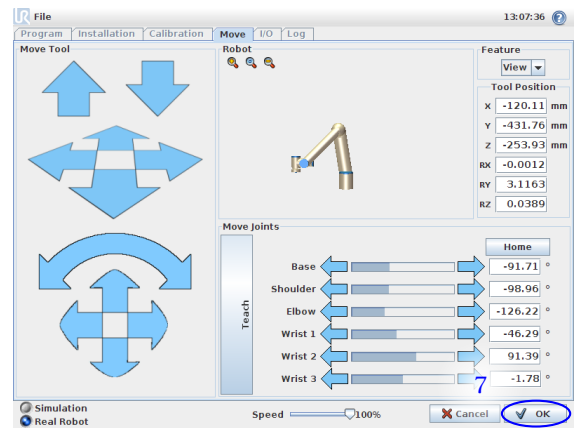

Figure 1.7: Move the robot to the correct position and press "OK".
(7) Teach the robot to the correct position and pressing "OK" to complete one position, see figure 1.7.